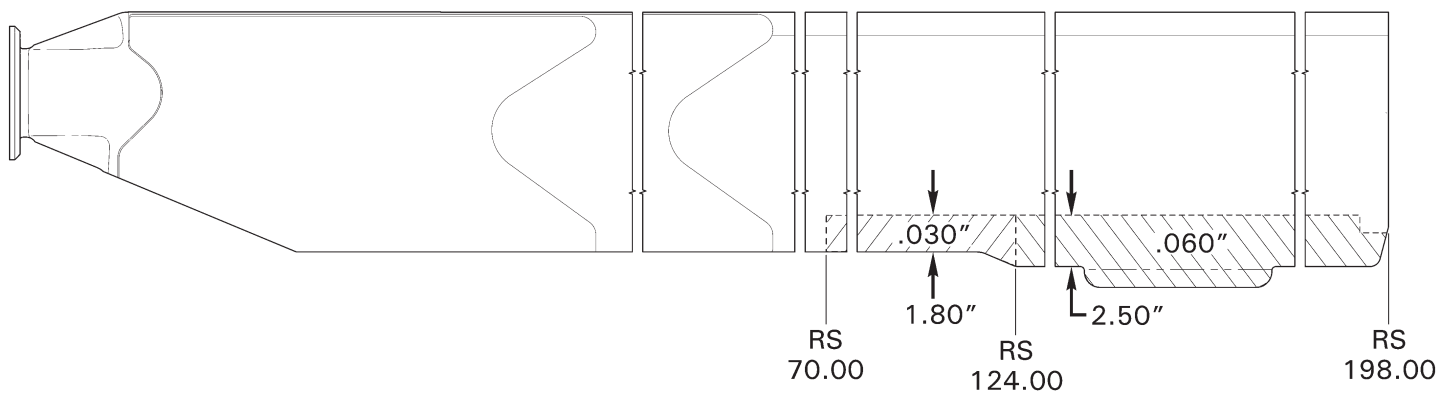

FIGURE 62-12 DENTS ON TRAILING EDGE BOND JOINTS – DAMAGE LIMITS (TOP AND BOTTOM OF BLADE)
1. Refer to Figure 62-12. Verify damage does not result in an edge void and does not exceed the following limits: